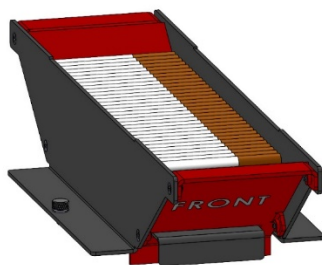

Figure 3 Hopper Extension
- A glass door with latches for access to the firebox (Figure 3)
The Hopper Extension (601-2113-001) can be added to the smoke generator to support additional cigarettes being loaded into the Hopper. The Hopper Extension (see Figure 3) is placed above the hopper to load and hold cigarettes and should be used when the user would like to load up to 300 cigarettes.